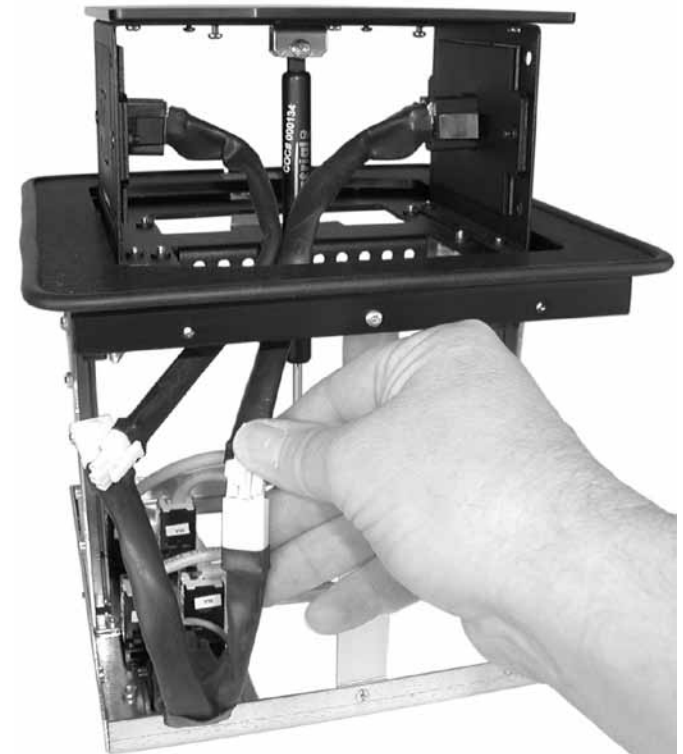

Figure 16. Disconnecting the Interior AC Cables
2. Disconnect the 3-prong cable connectors on the interior AC cables (see figure 16).